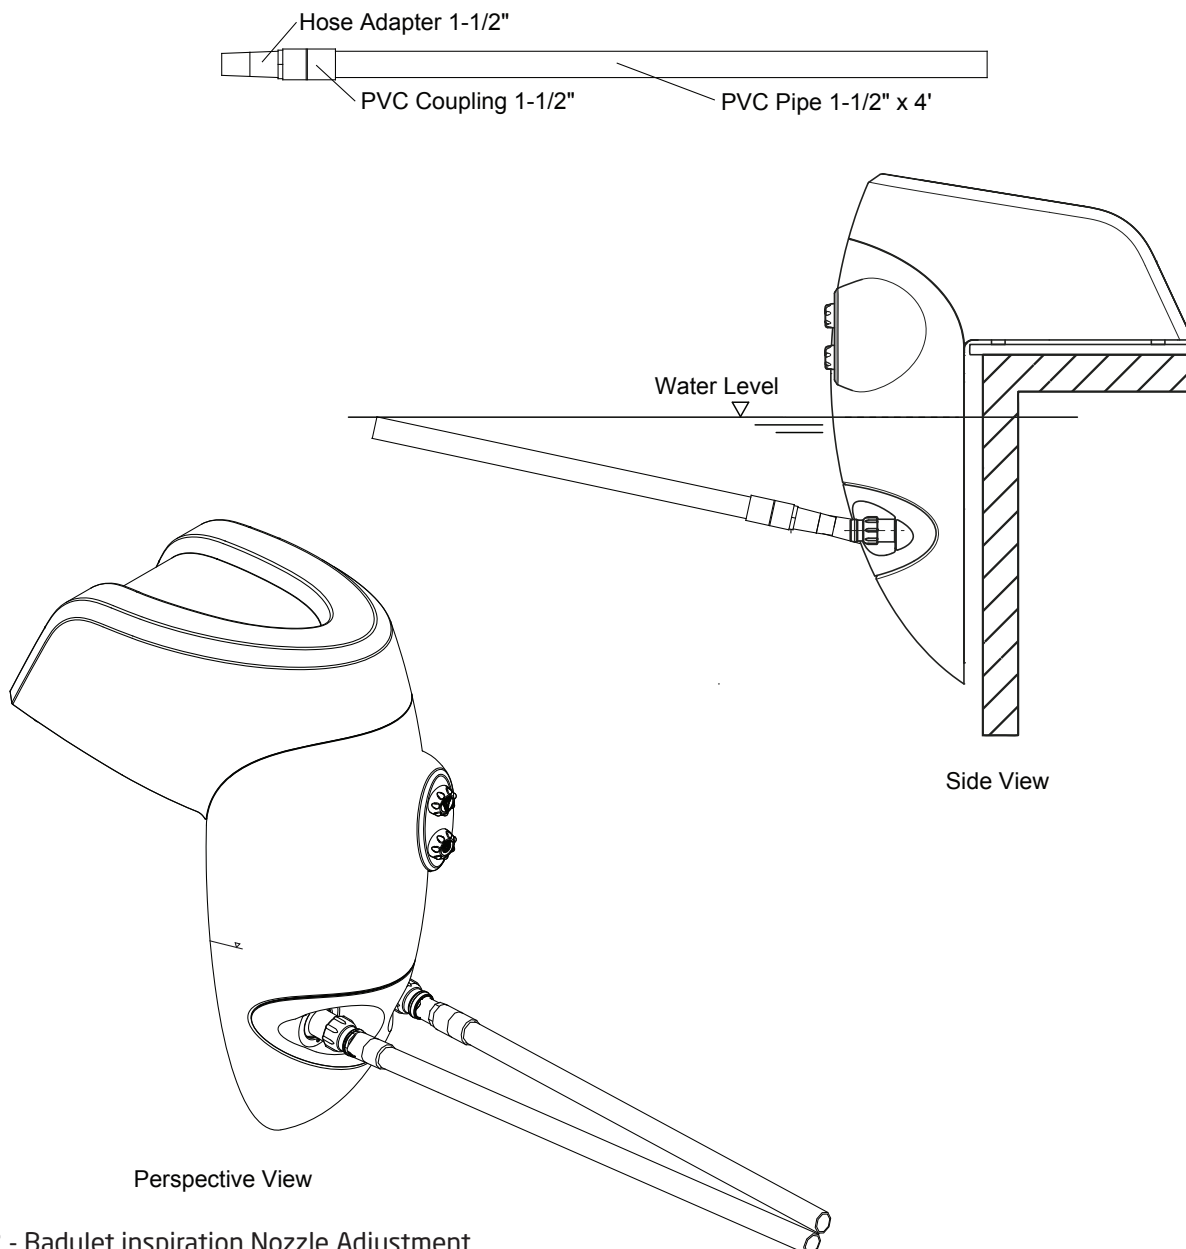

Figure 12 - BaduJet inspiration Nozzle Adjustment
4. Move each jet adjustment tool toward each other until each pipe touches at water level. (See Figure 12)